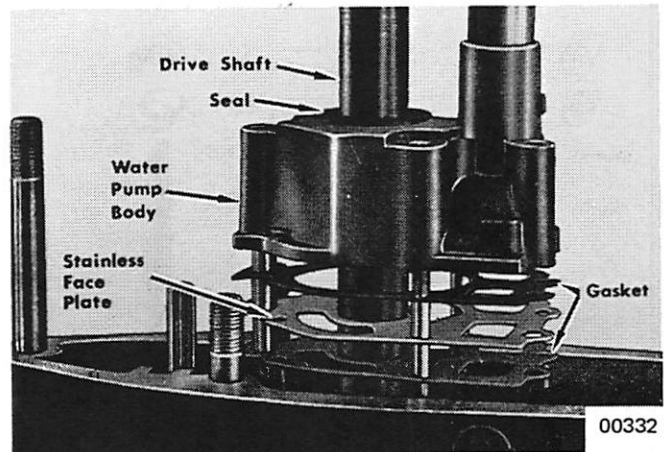

Figure 5. Removing Water Pump Assembly
5. Remove water pump insert, impeller and impeller pin along with water pump body, gasket, water pump face plate and gasket face plate to gear housing and oil seal (Figure 5).
4. Install water pump base-to-face-plate gasket and replace stainless face plate. (Figure 5)
7. Insert stainless water pump cartridge in water pump body and place water pump body-to-face-plate gasket on water pump body. (Figure 5)